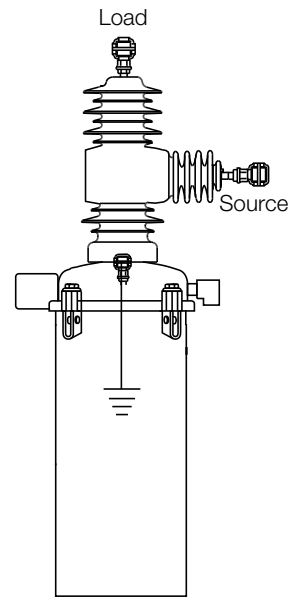

Figure 16. Terminal identification of SPEAR single-phase recloser
Note: The horizontal bushing is the source side and the vertical bushing is the load side. See Figure 16.
- B. Connect high-voltage lines to recloser bushing terminals. The recommended torque value for bushing terminal-to-line connection is 45-50 ft•lbs. Refer to Figure 16 for terminal identification of the SPEAR single-phase recloser. Terminal connection to only copper conductors is recommended.